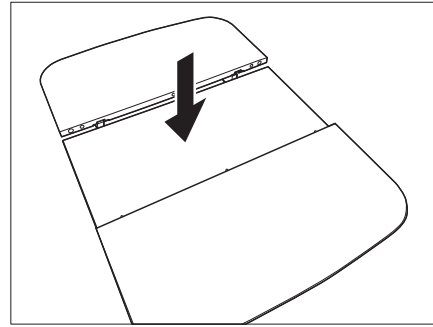

Fig. 101 Lower the middle part
- Push the middle part of the table firmly downwards (Fig. 101). The middle part is pushed upwards through the spring force.
- Push the middle part of the table firmly downwards. The middle part latches into the lower position (Fig. 101).